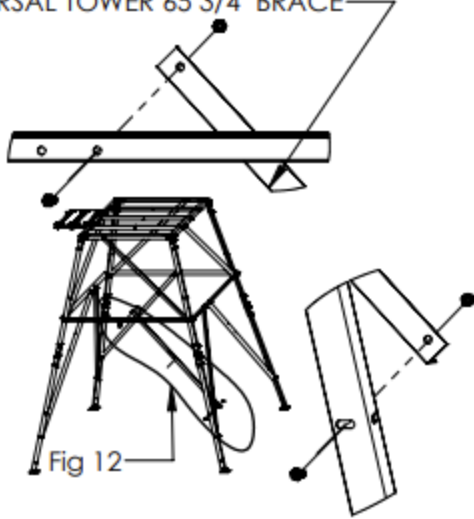

Fig 12
18. Attach the 65 3/4" brace to the horizontal cross bar and the lower leg on the narrow side using 2 - 3/8" x 1" bolts & 2 - 3/8" nylon lock nuts. Repeat on the opposite side. Do not tighten these at this time. (Fig 12)